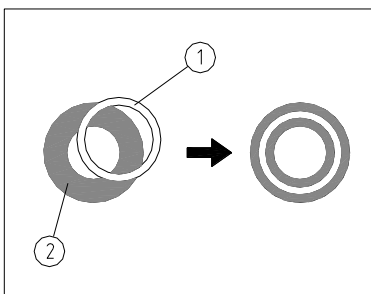
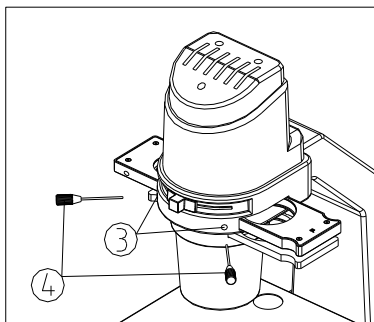

Fig. 36
Fig. 37
(1) Place specimen on the stage, and focus it.
(2) Remove the eyepiece, and replace it with CT (centering telescope), insert it into the tube without diopter adjustment.
(3) Make sure the matched phase loop (in the phase-contrast objective) and the light loop (in the phase-contrast slide) is shifted into the light path.
(4) Loosen the lock screw of the centering telescope, and observe into the centering telescope when pulling the upper part of it to focus the phase loop (2) of the focusing objective. Screw down the lock screw until the focusing is clear (See Fig. 36)
(5) Insert the phase center adjusting rod (4) into two holes (3) on the phase-contrast slide, then adjust them until the light loop (1) center overlay with the phase loop (2) center. (See Fig.36 & Fig.37)
(6) Shift the other phase loop (in the phase-contrast objective) and the matched light loop (in the phase-contrast slide) into the light path to see if the light loop (1) is away from the phase loop (2). Repeat the centering steps if it is away.